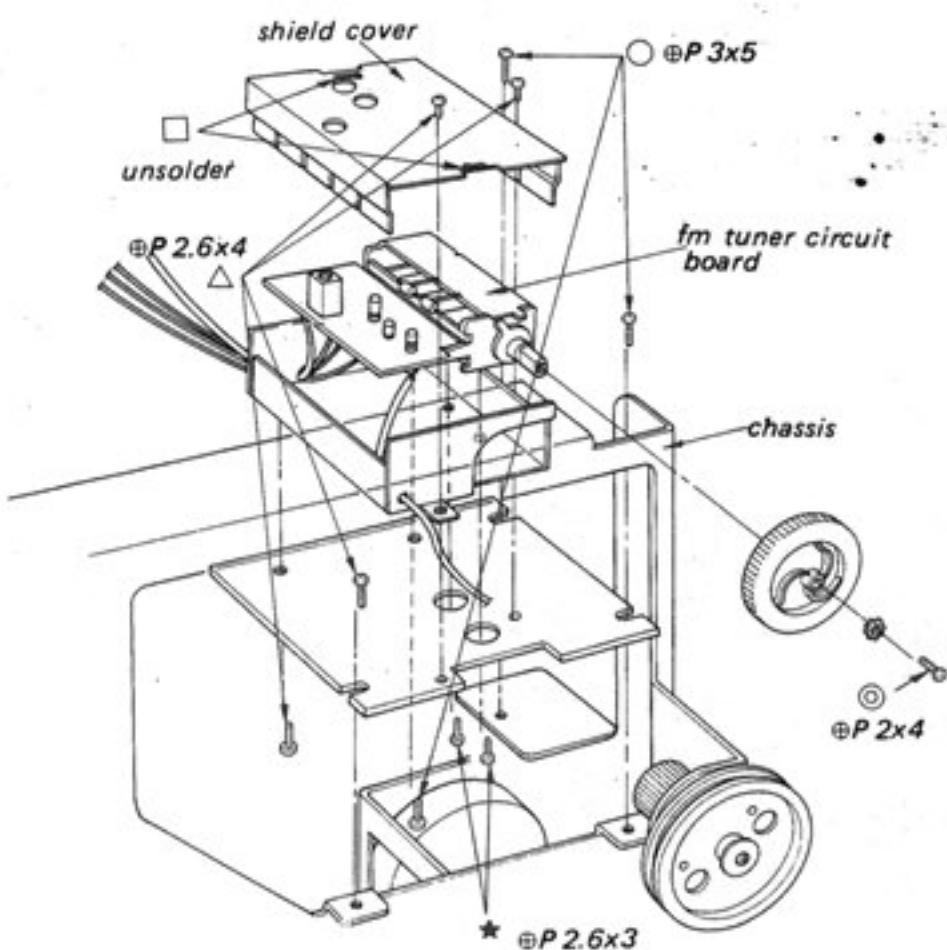

Fig. 2-7
2. Remove the seven screws marked \circ and \triangle in Fig. 2-7.
6. Take out the shield cover and fm tuner circuit board as illustrated in Fig. 2-7.